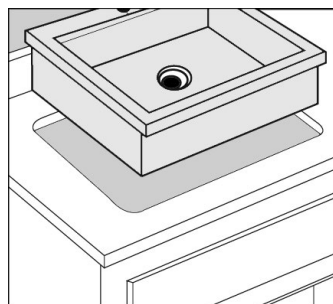

Figure 4
8. Apply a "rope" of plumbers putty or caulk around the perimeter of the underside of the sink. Flip the sink over and carefully place it into the countertop opening, with all of the drains and attachments secured. Press down firmly to seat the sink against the countertop (Figure 4).